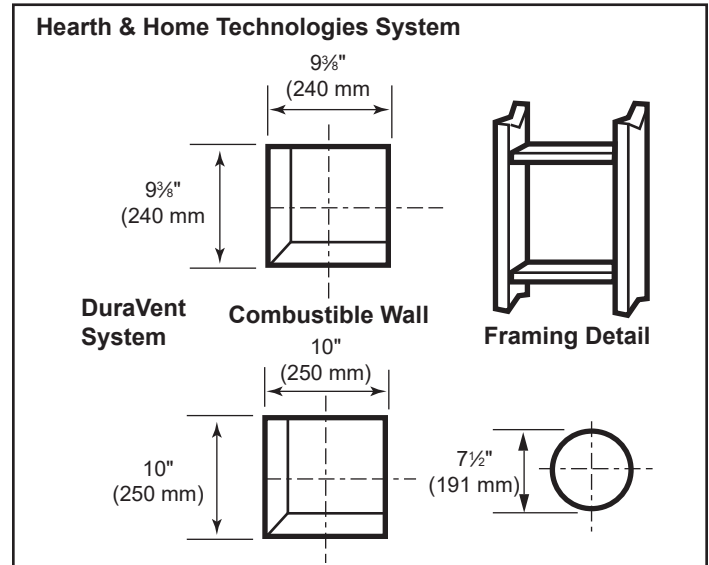

Figure 22 - Locate vent opening
1. Locate the vent opening on the wall. Refer to Figure 5, to determine the opening centerline. It may be necessary to first position the stove and measure to find the hole location. Depending on whether the wall is made of combustible materials, cut the opening to the size shown in Figure 22. Combustible wall openings must be framed as shown in Figure 22.